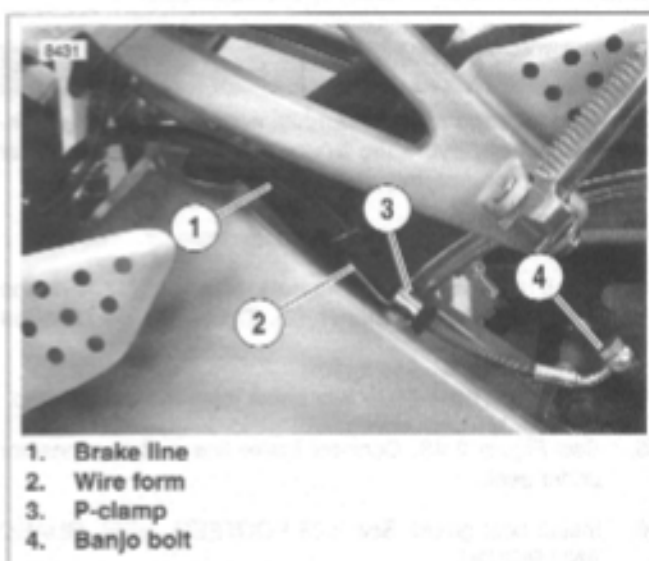

Figure 2-49. Rear Brake Line
6. See Figure 2-49. Remove p-clamp (3) and wire form (2) securing brake line (1) to the left side of swingarm.
3. See Figure 2-49. Secure brake line (1) to left side of swingarm with p-clamp (3), wire form (2), and tighten to 36-60 in-lbs (4-7 Nm). See D.1 HOSE AND WIRE ROUTING for brake line routing.